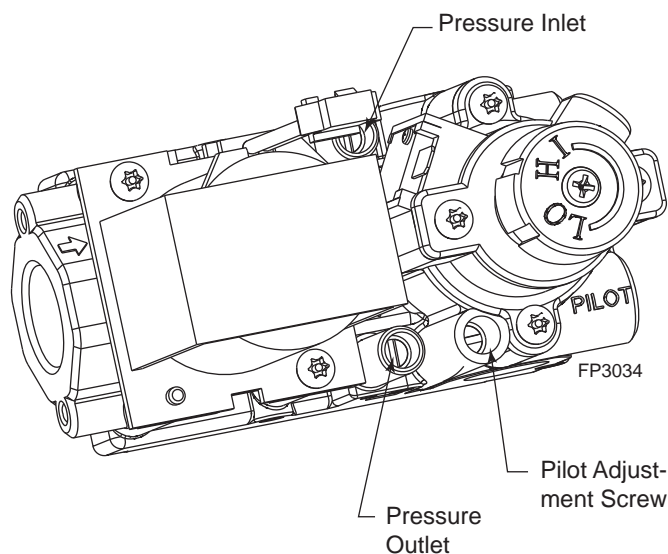

Figure 13 –
4. To check gas pressures at valve, turn captured screw counter clockwise 2 or 3 turns and then place tubing to pressure gauge over test point. Turn unit to high. *Figure 13.* After taking pressure reading, be sure and turn captured screw clockwise firmly to reseal. Do not over torque. Check test points for gas leaks.